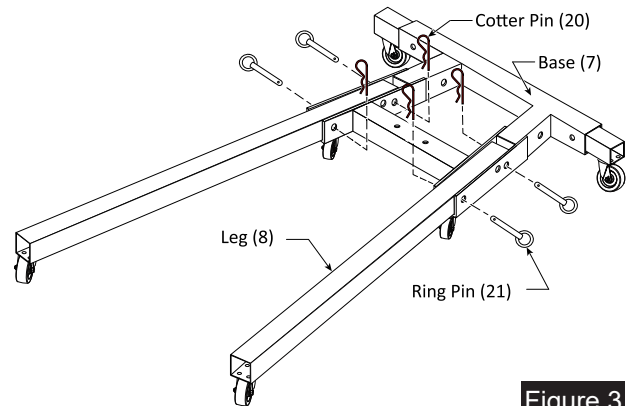

Figure 3
**3.** Retrieve the two Legs (8), four Ring Pins (21) and Four Wire-Steel Cotter Pins (20). Assemble the Legs to the Base Assembly and secure with the Ring Pins and Steel Cotter Pins.
**Note:** Lift up on the front of the Base Assembly until the holes align (See Fig. 3).